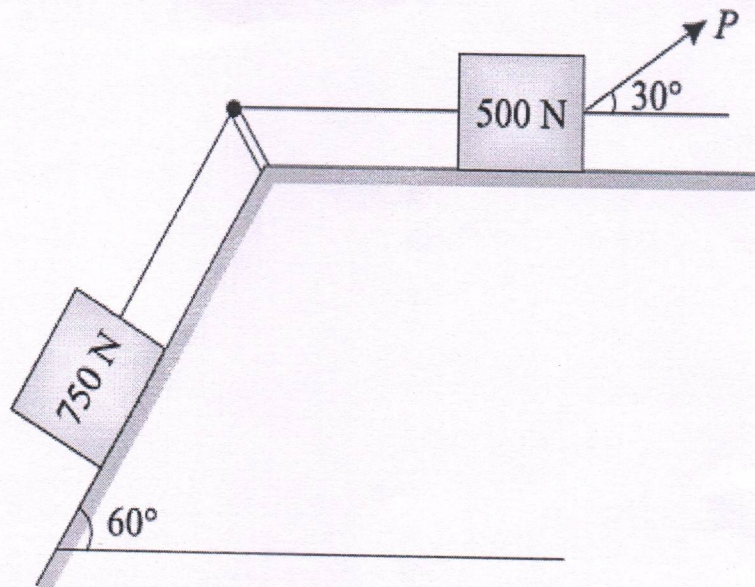

Fig. 3.3
3. What is the value of  $P$  in the system shown in Fig. 3.3 to cause the motion to impend? Assume the pulley is smooth and coefficient of friction between the other contact surfaces is 0.2.